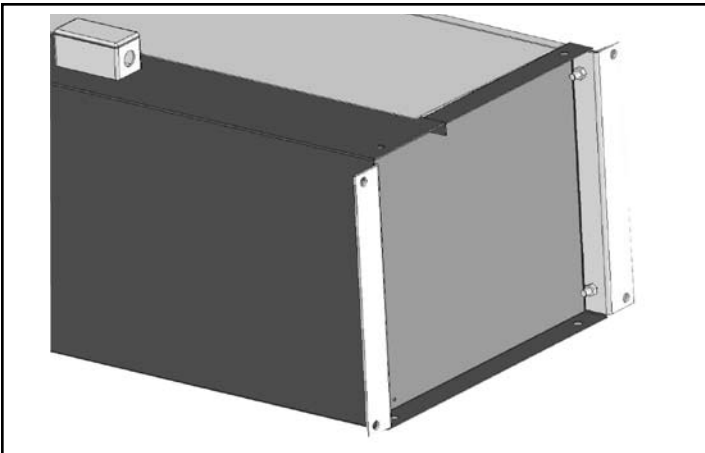

FIGURE 5 - Floor Mounting Brackets
C. To vertically mount a VSA/VSB unit using optional Floor Mounting Brackets, bolt brackets on the inside of the endplate with (4) 1/2 - 13 bolts as shown in **Figure 5**.